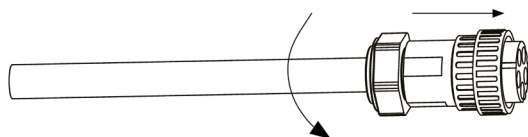

Fig. 36. Connecting and fastening the sleeve on the AC terminal.
- e. According to the direction of the arrow, push the threaded sleeve until it connects to the AC terminal head, and then turn the cable gland clockwise to lock it, as shown in Fig. 36: